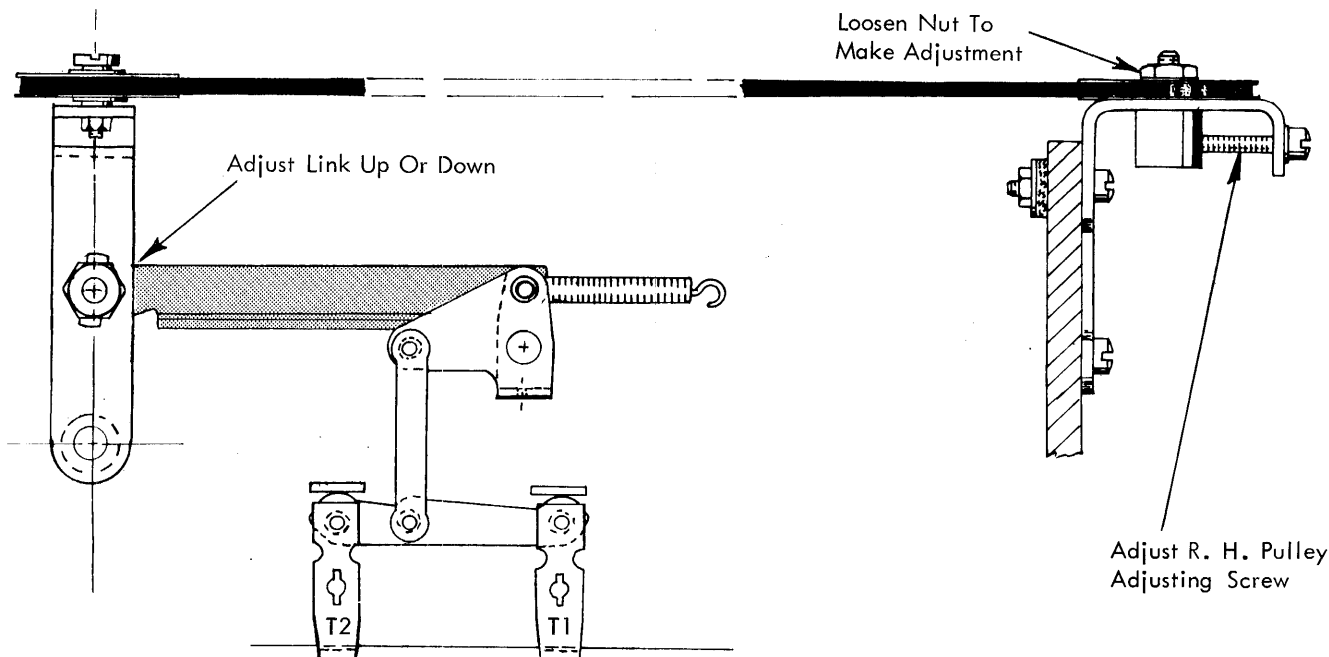
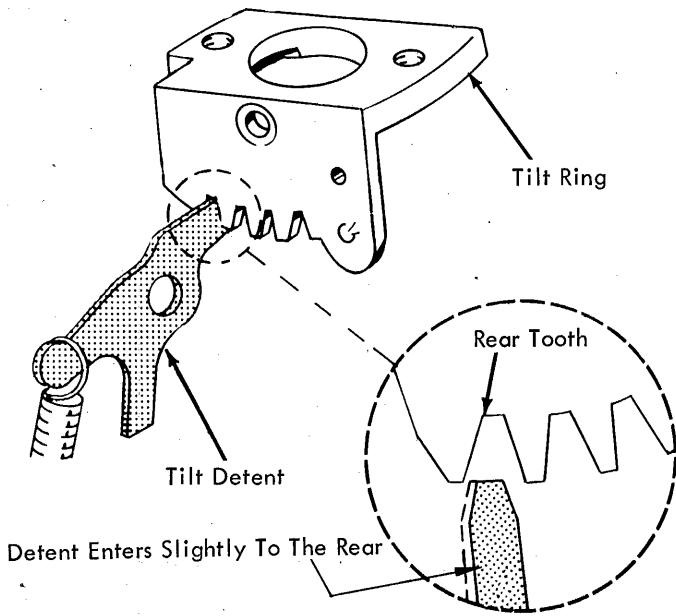

FIGURE 109. Tilt Mechanism
FIGURE 110. Rough Homing
3. Tilt Arm Motion - Adjust the tilt link up or down on the tilt arm (Fig. 109) to control the tilt ring motion so that the tilt ring will coarse align the same for a 3-tilt character as it does for a zero-tilt character.
In order to check this adjustment, it is necessary to roughly home the tilt ring first. To rough home, half-cycle a zero-tilt character and adjust the right hand tilt pulley (Fig. 109) so that the tilt detent will enter slightly on the rear side of the V-shaped detent notch in the tilt ring when the tilt ring play is removed in the restoring direction (Fig. 110). As the tilt detent is allowed to seat itself, the rear of the tilt ring should rise slightly. This is a preliminary adjustment and will require refinement after the proper tilt arm motion is obtained.